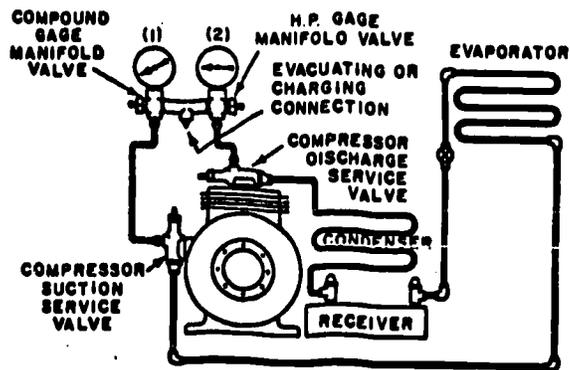

Fig 3-6. Gauge manifold connected to a system.
- The gauge manifold is now connected to the system and is ready for use (see fig 3-6).